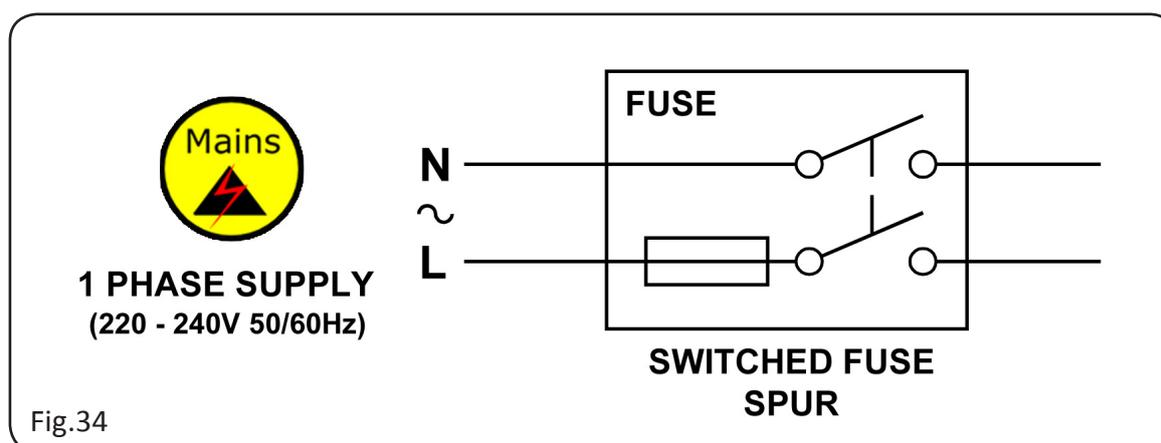

Fig.34
- Connecting the system to the mains through an **all-pole circuit breaker** (*refer to Fig.34 opposite*) which shall have contact separation of at least 3mm in each pole and shall disconnect all poles simultaneously.